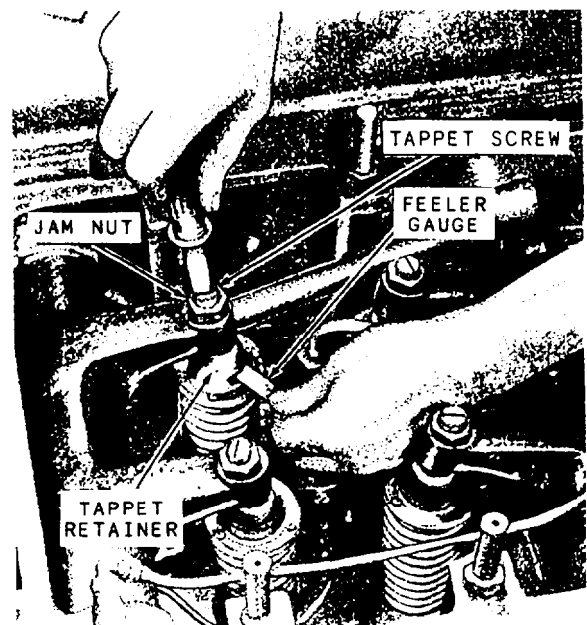

Figure 3-16.—Adjusting valve clearance.
4. Tighten the tappet screw (fig. 3-16) until the feeler gauge will just slide freely between the bearing and the valve stem.